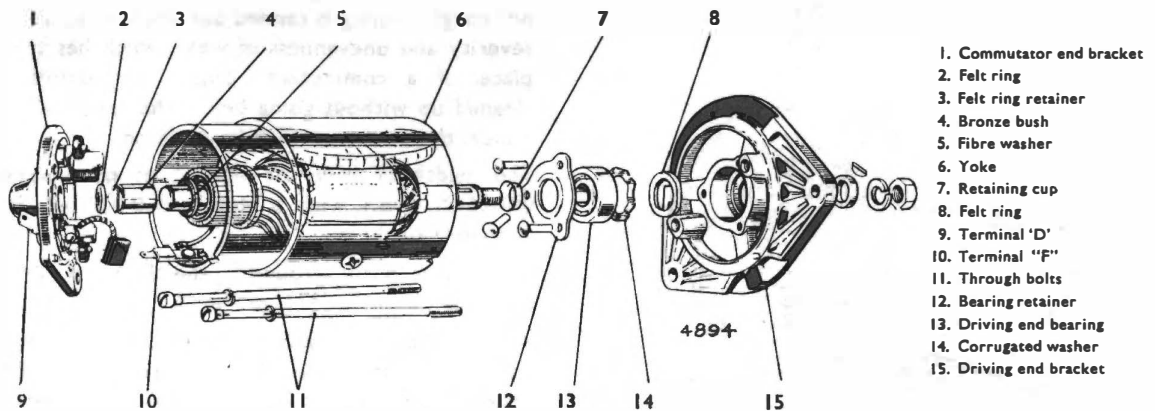

Fig. 3 Exploded view of generator
**To Dismantle (See Fig. 3)**
2. Unscrew and withdraw the two through bolts (11).
The ball bearing at the driving end is renewed as follows (See Fig. 3):—